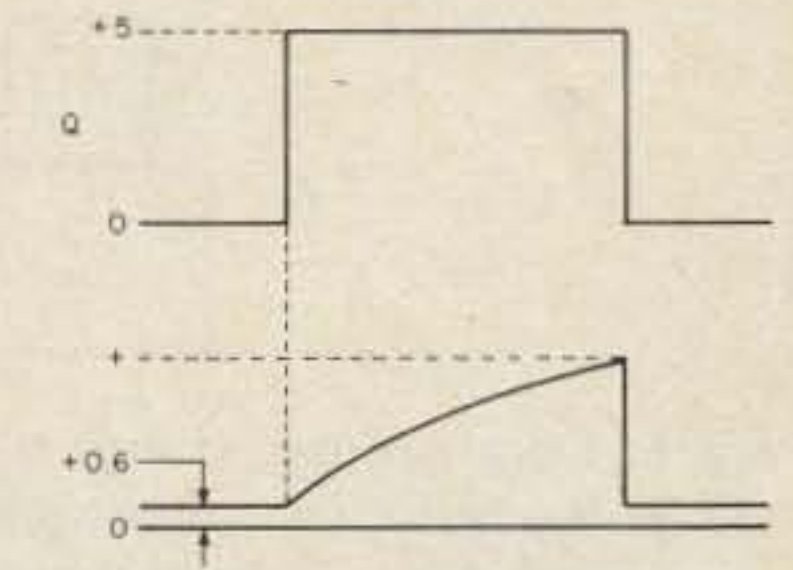

Fig. 2(b). The potential across C1 never drops below 0.6 volts because of the presence of D1.
An example of a monostable multivibrator built from a CMOS type-D flip-flop is shown in Fig. 2. Recall the rules for the type-D FF: (1) Since D is HIGH, a HIGH will be transferred to the Q output when the CLK line goes HIGH, and (2) when the clear line goes HIGH, the Q output is forced LOW. The operation of the one-shot circuit in Fig. 2, then, is as follows:
The circuit in Fig. 2(a) uses a diode (D1) across the timing resistor (R1) to discharge C1 during the period when Q is LOW. This diode is not strictly necessary but serves to speed up the circuit considerably. Without D1, the charge on capacitor C1 would bleed off through R1. But this would require another R1C1 time constant (or so) before the voltage across C1 would discharge enough to permit retriggering of the one-shot. The purpose of D1 is to discharge C1 rapidly so that retriggering can occur almost immediately after Q drops LOW—see the waveform in Fig. 2(b).
Fig. 2(a). A CMOS flip-flop is the basis for this monostable multivibrator. R1 and C1 determine the length of the pulse. D1 allows the flip-flop to be retriggered immediately after clearing.